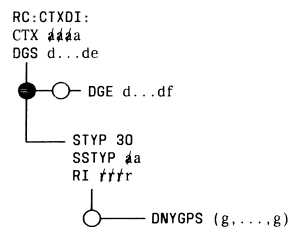

Fig. 27 — RC:CTXDI Message Flowchart
- (1) Construct RC message per Table I and Fig. 27.
- (2) At terminal, type RC message as constructed in Step (1) and observe RC18 23 0 ACPT response.